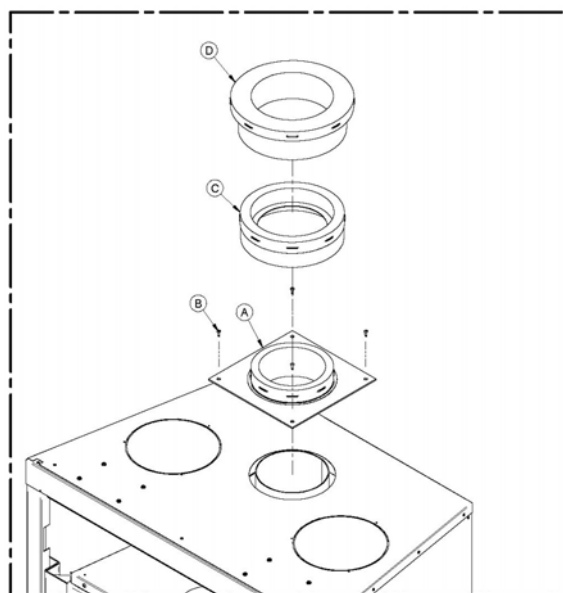

Figure 42
*This fireplace may be installed with a 7-inch chimney of the same type as the ones listed in the above table, provided that a 6" to 7" insulated increaser (see figure 42, parts C and D), supplied by the chimney manufacturer, is installed for the transition between the 6-inch anchor plate(see figure 42 part A) which can be secured with screws (see figure 42 part B) and the 7-inch flue. For Security Chimneys, the part number is 6AW7.